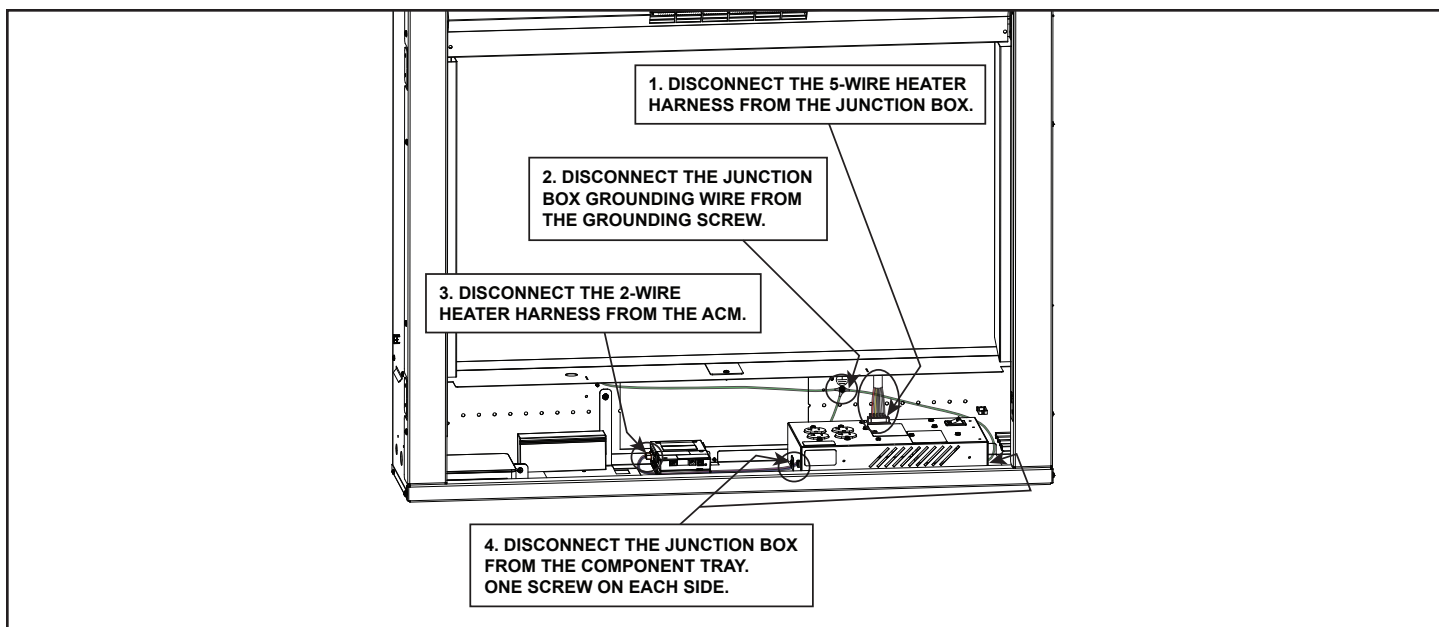

Figure 3.15 Junction Box Removal
3. Disconnect the 5-wire heater harness from the top of the junction box assembly using a small, 3/32" slotted screwdriver to disconnect and remove the harness connector from the junction box assembly. See Figure 3.15.
5. Disconnect the 5-wire heater harness from the top of the junction box assembly using a small, 3/32" slotted screw-driver to disconnect and remove the harness connector from the junction box assembly. See Figure 3.15.
6. Disconnect the 2-wire heater harness from the side of the ACM. See Figure 3.15.
8. Remove and retain the 1/4" Hex/Phillips grounding screw securing the component tray tab to the back wall of the appliance. See Figure 3.15.
9. Access and remove the Phillips screw from the left and right sides of the junction box assembly. See Figure 3.15.